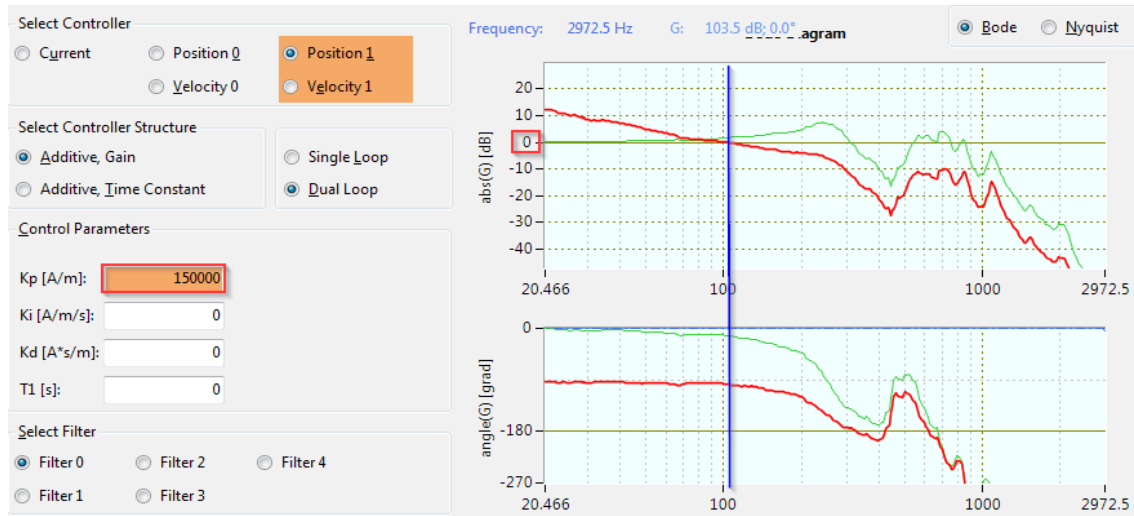

Figure 9: Gain crossover frequency with tuned K_p .
- In the example displayed in Figure 8 f_{gc} is chosen at 105Hz where the open loop gain G_{gc} is -103.5dB (with **Kp** = 1). With G_{gc} the controller gain can be calculated with equation (8) which yields **Kp** = 150000. With this **Kp**, the open loop gain in the bode display should now cross 0dB at f_{gc} (Figure 9).